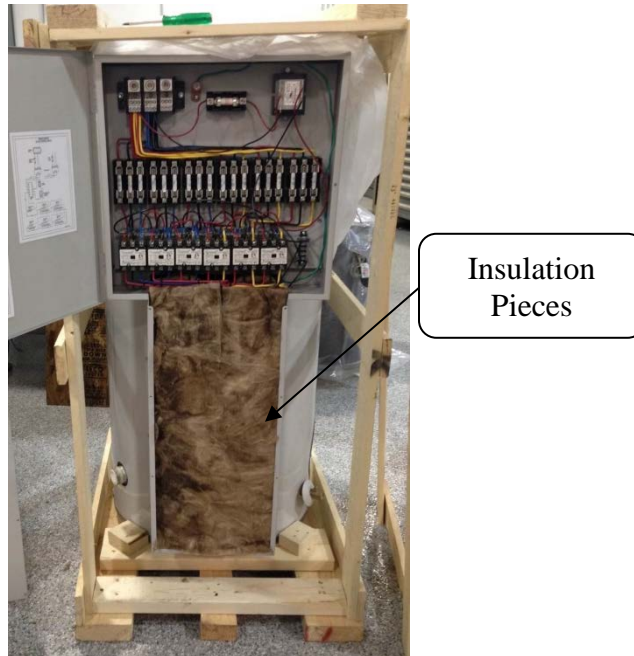

Figure 5. Inside Control Box
3. Remove and set aside the insulation pieces that are inside the lower portion of the control cabinet to gain access to the elements (see Figure 5).